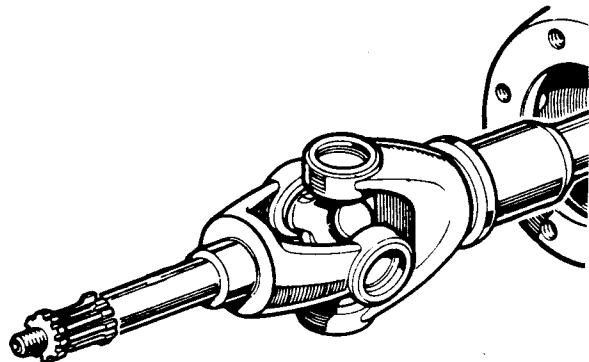

Fig J1.27
- (3) Refer to Fig J1.27. Withdraw the axle half shaft complete.